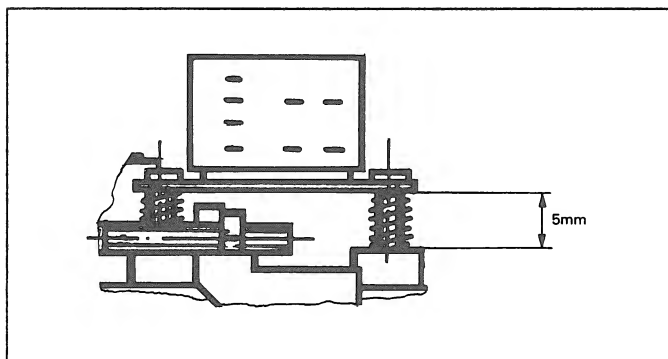

Fig. 3.7
- The azimuth of the soundhead can be adjusted with the screws [A], [B], and [C] to 5 mm (Fig. 3.7).